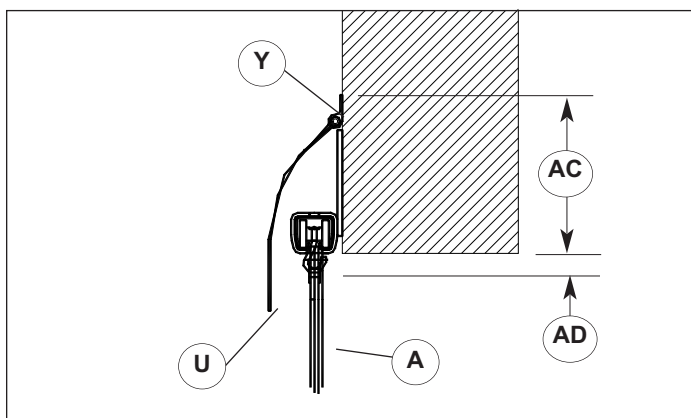

Figure 6.2
- Lintel seal (R) comes pre-attached to the trailer rail (V).
- Position track approximately 6" [152] (AC) above the door jamb so it clears the track hanger brackets. 6" [152] allows for handle travel and curtain storage. Fasten the track approximately every 18" [457] (Y), **Figure 6.2**. Lintel seal hangs into doorway (U). Hardware supplied by others.